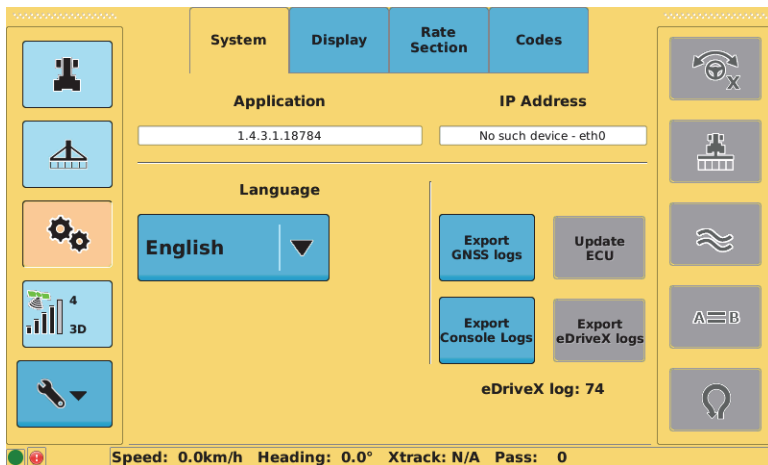

Figure 2-4: System (Tools) screen
1. Press the **Tools** screen button, and, if the System screen is not displayed, press the **System** tab. The System screen appears (Figure 2-4 above).